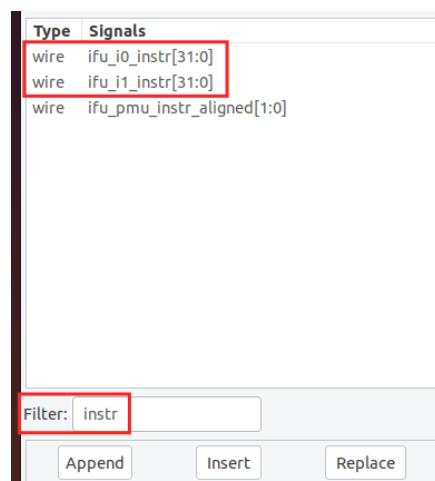

Figure 86. Add signals *ifu_i0_instr[31:0]* and *ifu_i1_instr[31:0]* to the timing waveform
10. Now add the signals that show the instructions that execute in each way of the two-way superscalar RISC-V core. In the same module (**ifu**) look for signals *ifu_i0_instr[31:0]* and *ifu_i1_instr[31:0]* (Figure 86), and drag them into the black Waves pane. The prefix *ifu* indicates the instruction fetch unit, *i0* indicates superscalar way 0 and *i1* indicates superscalar way 1; *instr[31:0]* indicates the 32-bit instruction.